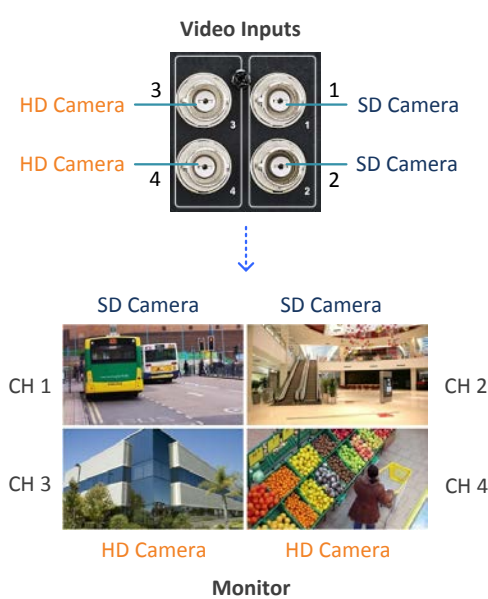

Figure 1
1. If you have two HD cameras and two SD cameras, you should connect the two HD cameras to one pair of the video inputs and plug the two SD cameras to another pair of the video inputs (see Figure 1).